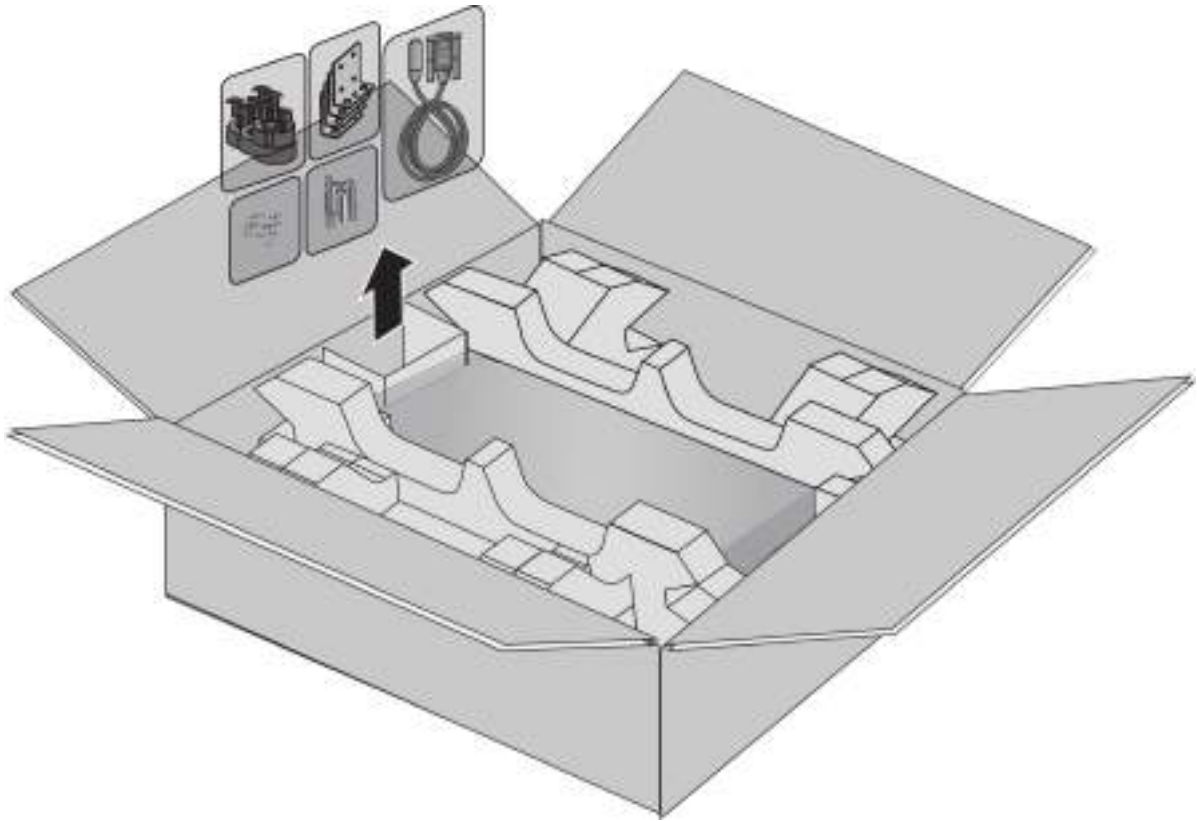

Figure 28. Removing Accessories
1. Remove the accessories and documents from the accessory box partition. Refer to Figure 28.